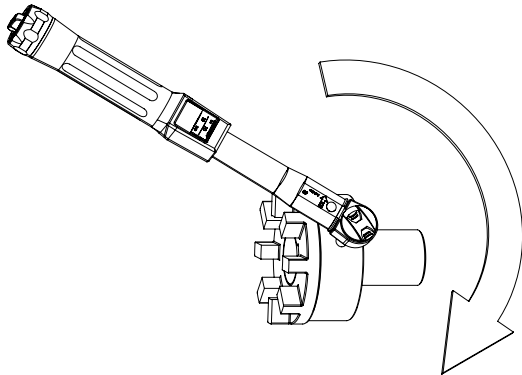

Figure 7 - Tightening Bolts with a Torque Wrench
2. Using a calibrated torque wrench, secure each hub by tightening each set screws to the specified torque in Table 1, following the clockwise order shown in Figure 7.